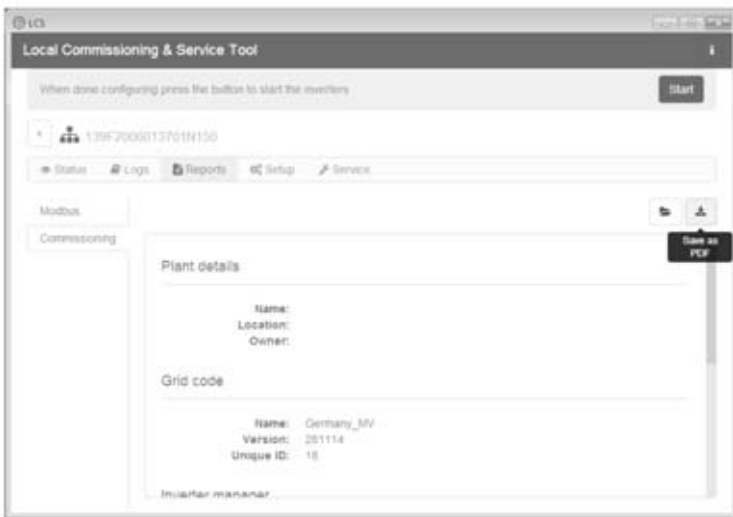

Figure 3.10 LCS tool - Commissioning report
11. Upon commissioning, it is possible to download a commissioning report under the menu "Reports". The report contains information about inverter settings, including actual disconnection values for each inverter. See figure 3.10.